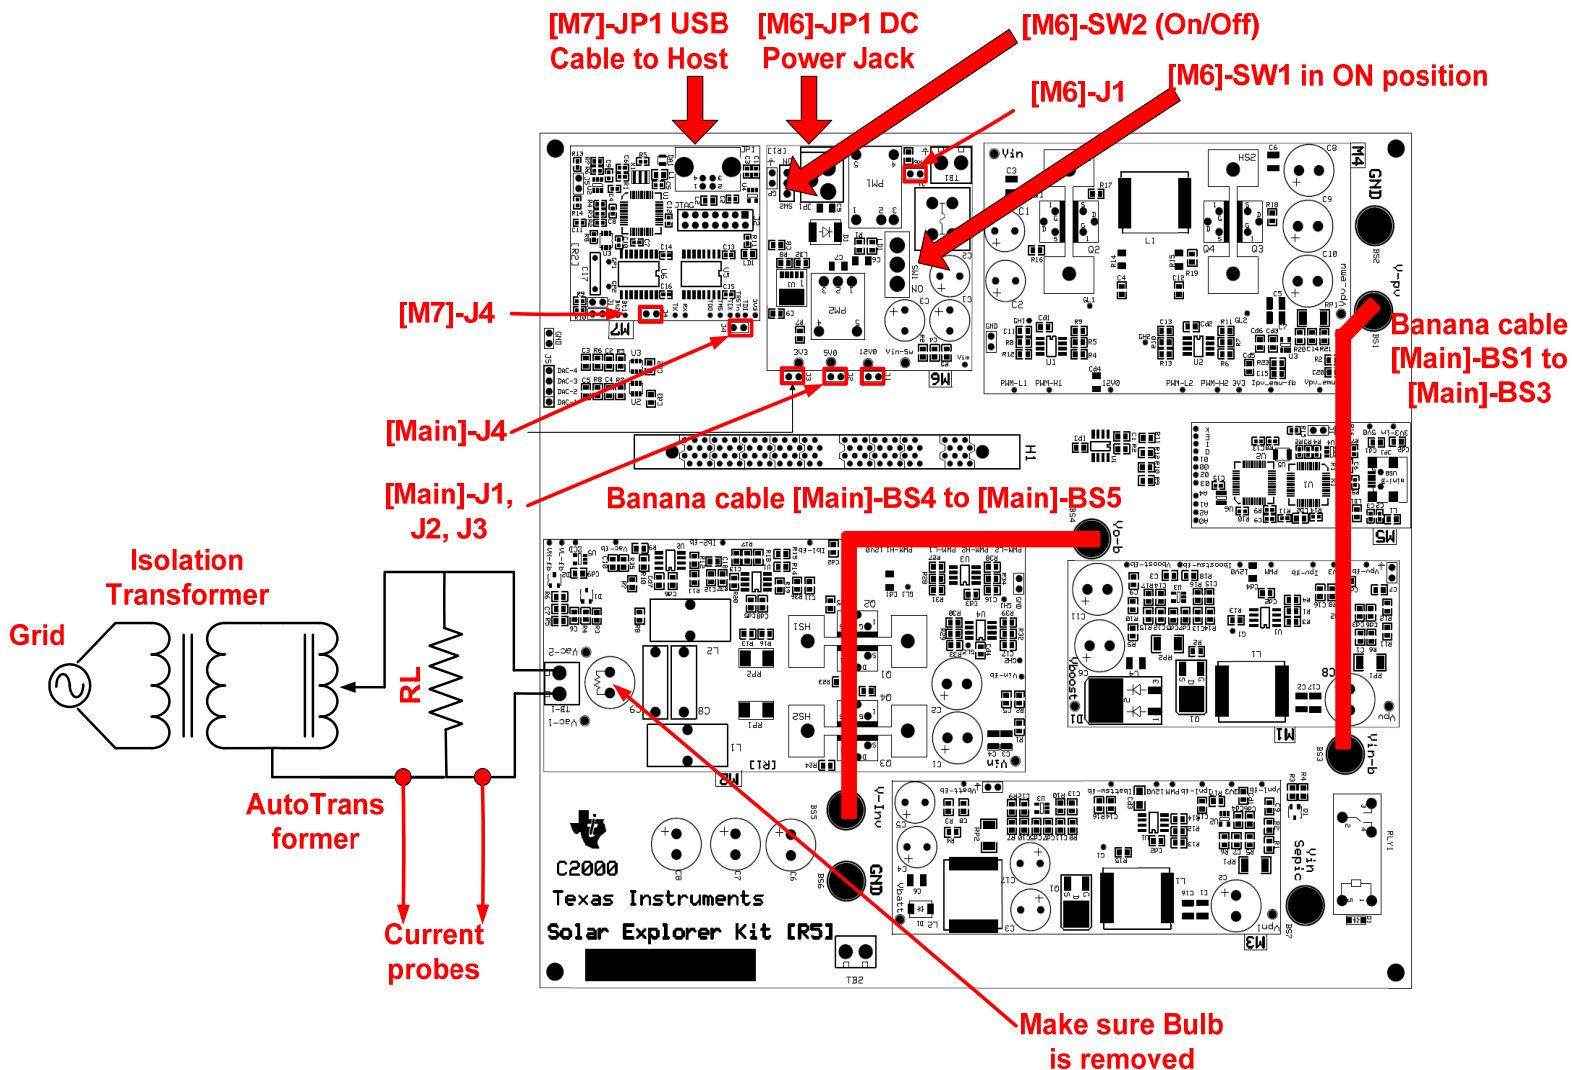

Fig 36 Hardware Setting for Build 3
- Fig 36 shows the hardware settings for the Build 3 test.
- First move the autotransformer to 0 setting and make connection with the resistive load and the solar explorer board with the gird as shown in the Fig 36.